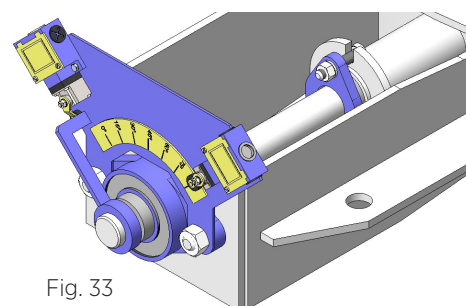

Fig. 33
- Limit switches (fig. 33)
Installation of limit switches (fig. 33) or inductive detectors to indicate specific valve position, and positioners to indicate continuous position.